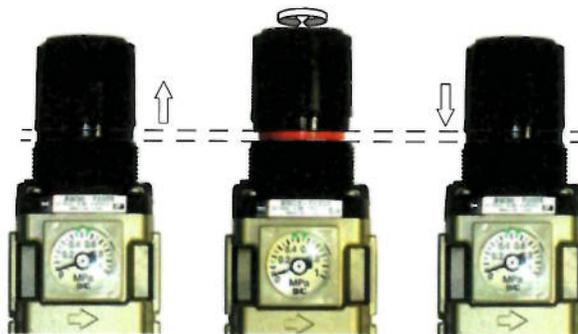

fig.18
- Pull the pressure adjustment wheel upwards, away from the housing, to unlock it (fig.18).
- Turn the pressure adjustment wheel in the direction “-” as far as possible (fig.18).
- Turn the pressure adjustment wheel in the direction “+” until the desired pressure is displayed on the manometer. The input pressure has to be at least 1 bar higher than the output pressure (fig.18).